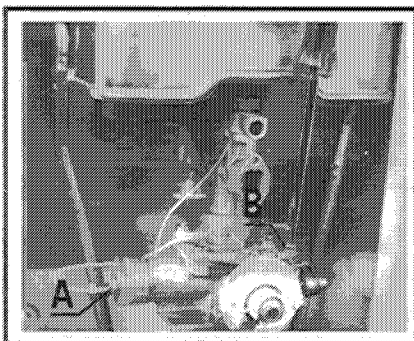

Fig. 9
- To replace, remove the thermocouple nut A (fig. 9).
- Remove the four fixing screws fastening the top of the gas section to the base B (fig. 9). Also the two screws at the back holding it to the rear case.